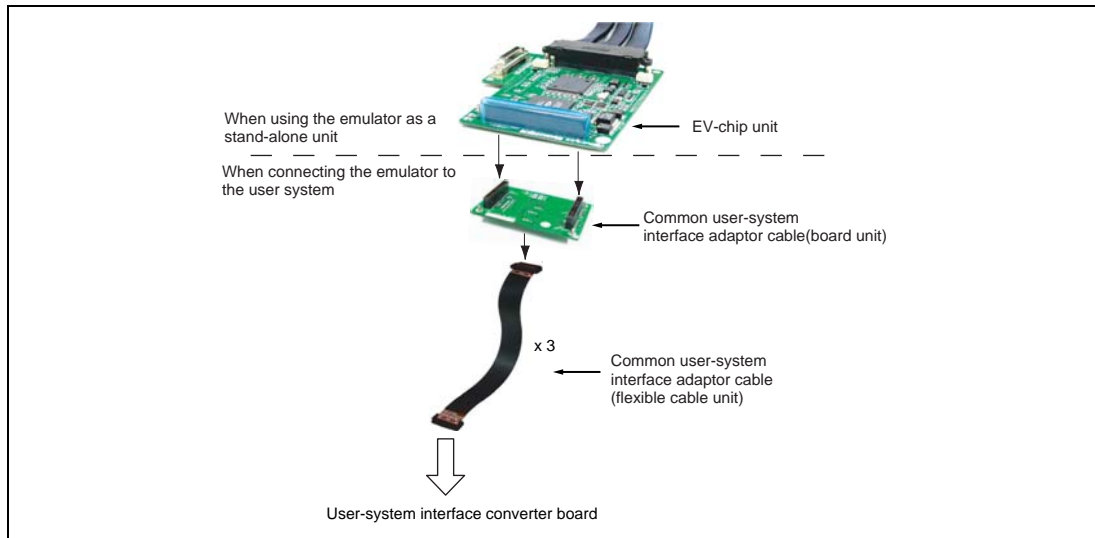

Figure 2.10 Connecting the E200F Emulator as a Stand-Alone Unit
- If you are using the E200F emulator unit without connecting it to a user system, refer to table 1.3 in section 1.2, System Configuration, and make connections as shown in figure 2.10 until the EV-chip unit becomes available.